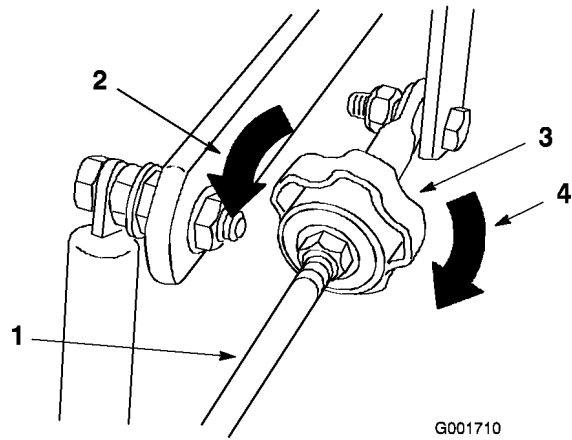

Figure 46
4. Adjust the tracking as follows (Figure 46):